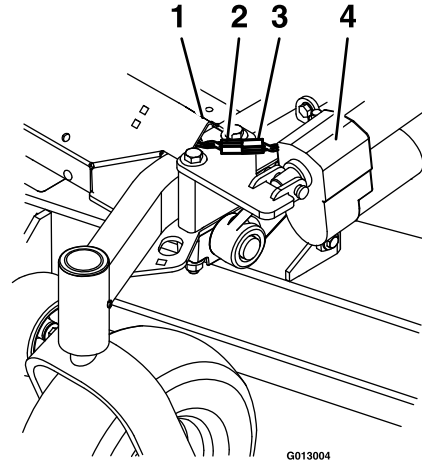

Figure 12
2. Connect the other end to the actuator harness. Push the deck lift and actuator harness connection inside the toe board (Figure 12).